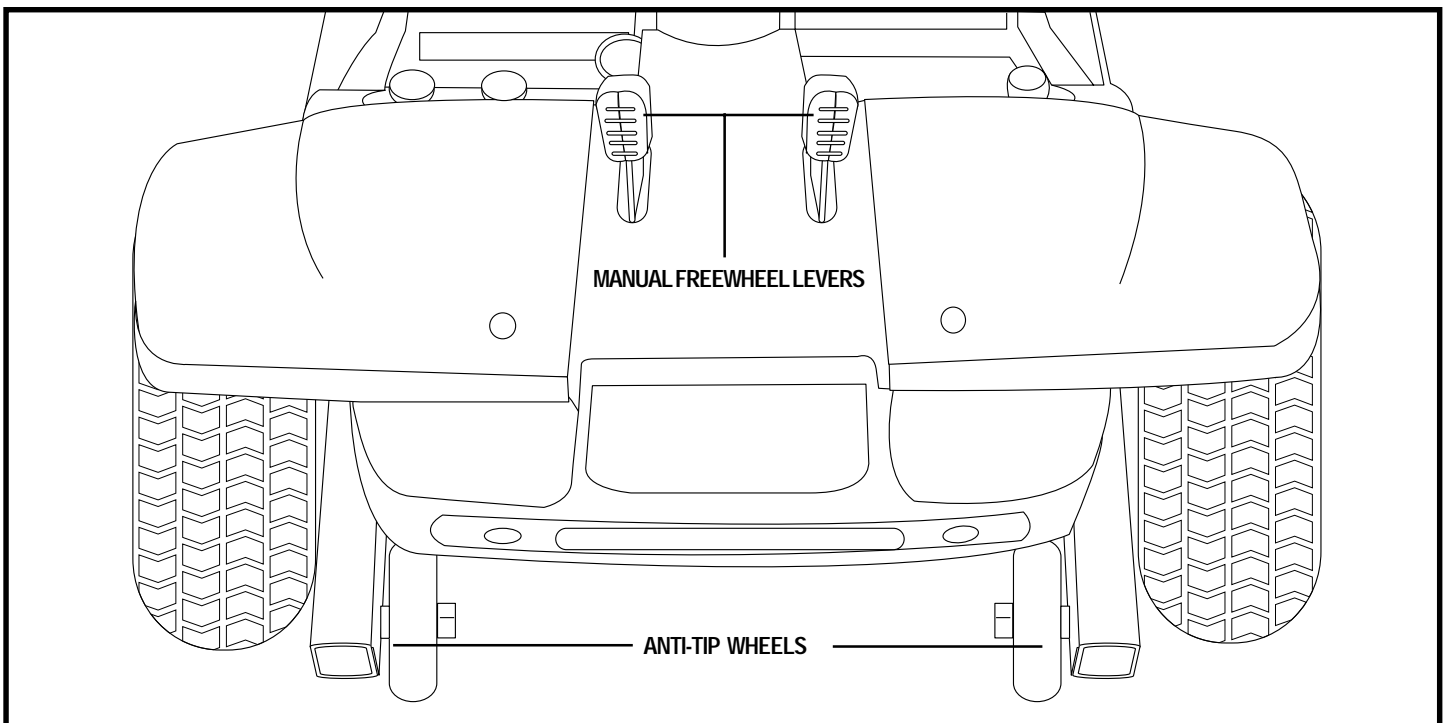

Figure 7. Back of Power Base
1. Locate the levers on the rear section of the power base. See figure 7.
The anti-tip wheels are an integral and important safety feature of your Go-Chair. Do not, under any circumstances, remove the anti-tip wheels from your Go-Chair. See figure 7.